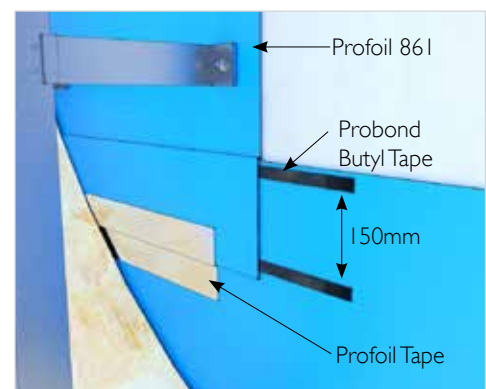

Fig. 4: Profoil detail: Overlaps are sealed with two runs of Probond Butyl Tape and Profoil Tape over the edges.
8. Seal all overlaps and perimeter edges with a single run of Profoil Tape. A double run of Probond Butyl Tape between overlaps is still required (Fig.4).